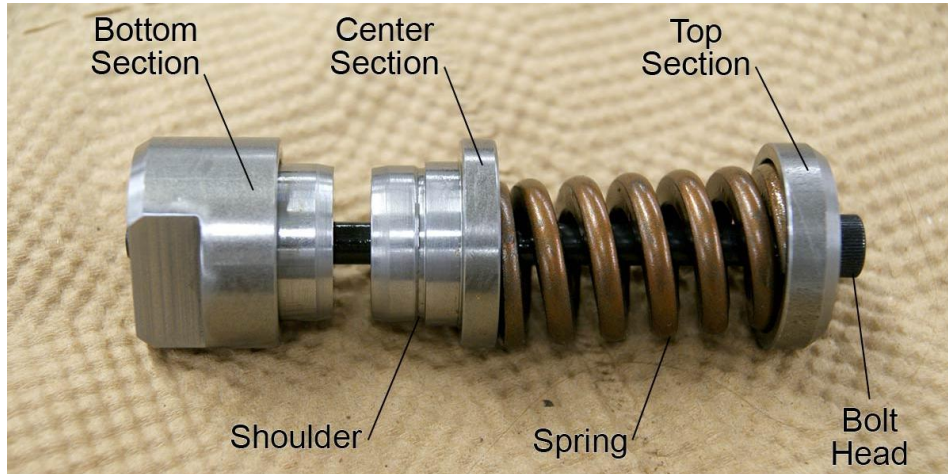

Figure 3
1. Remove the bottom section from the ST-531, Connecting Rod Bushing Press-Out Verification Tool (Figure 3) (available from Lycoming Engines).